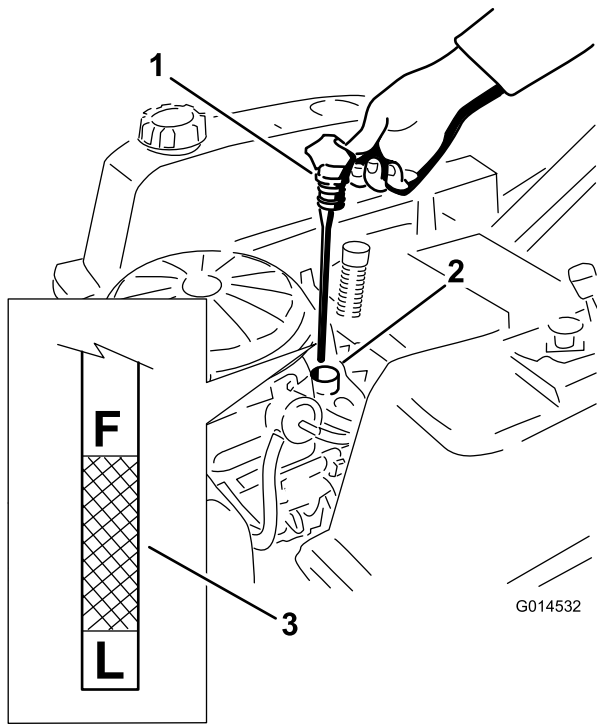
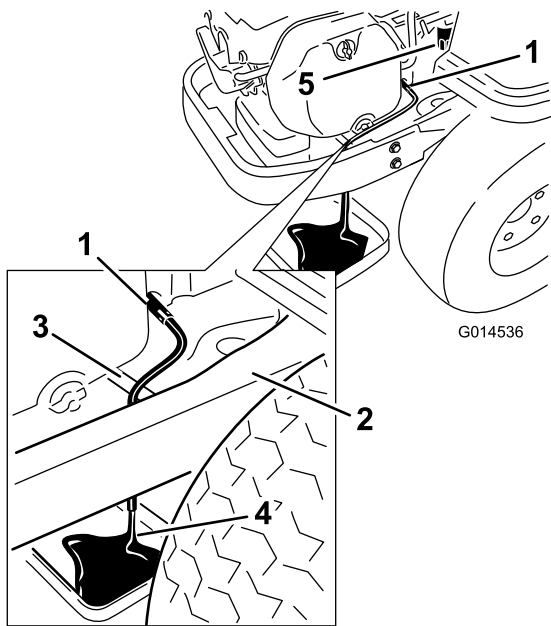

Figure 30
Figure 32
4. Pull and remove the oil fill cap/dipstick; wipe oil off. Reinsert the dipstick and push firmly into place (Figure 30).
5. Remove the dipstick and check the oil level. (Figure 30).
6. Place a pan underneath machine directly below the drain hose as shown in Figure 32.
7. Turn the drain valve 1/4 counter clockwise to open and allow the oil to drain (Figure 32). Remove the oil fill cap/dipstick (Figure 30).
9. Remove the old filter and wipe off the mounting pad (Figure 32).
10. When oil has drained completely, close the oil drain valve. Remove the oil drain hose and wipe up any excess oil on the frame (Figure 32).
14. Slowly pour approximately 80% of the specified oil into the filler tube (Figure 30).
15. Install the oil fill cap/dipstick and push firmly into place (Figure 30).
16. Check the oil level (Figure 30); refer to Checking the Oil Level.
18. Install the oil fill cap/dipstick and push firmly into place (Figure 30).